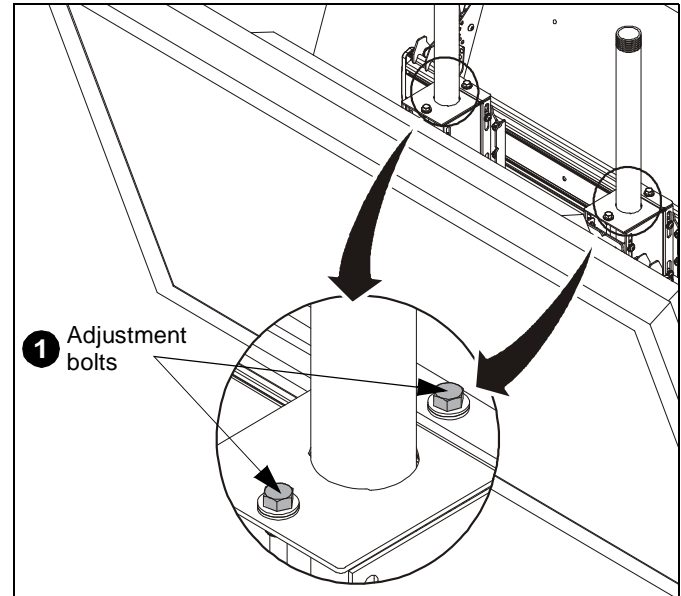

Figure 16
1. Turn the height adjustment bolt(s) in the direction necessary for the desired height. (See Figure 16)